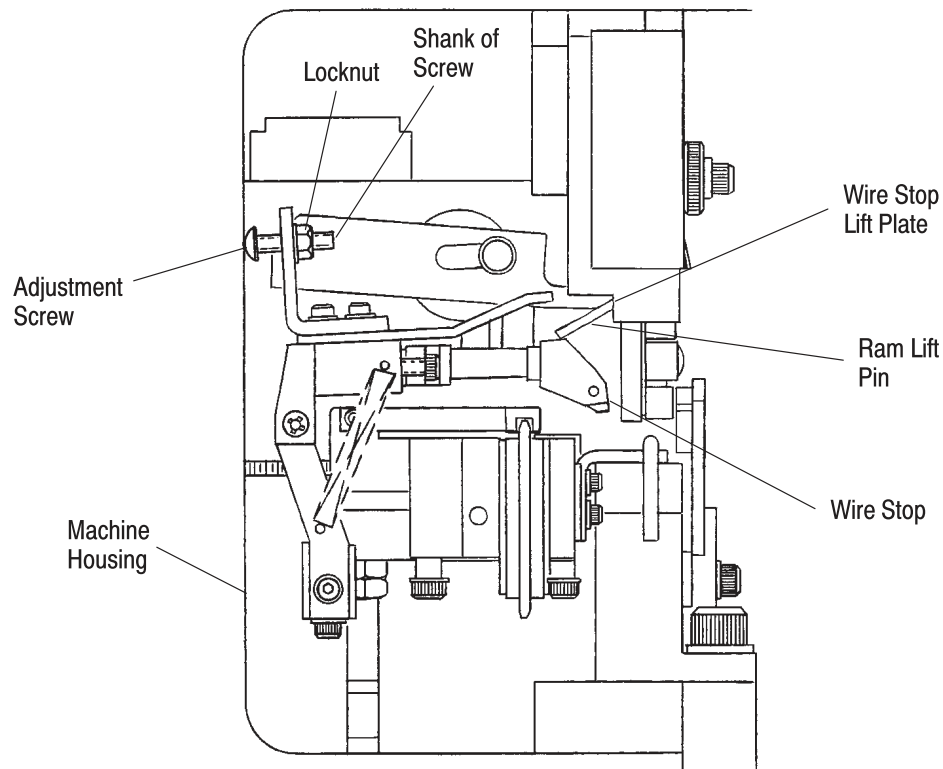

Figure 19
7.3. Wire Stop Vertical Lift Adjustment (Figure 19)